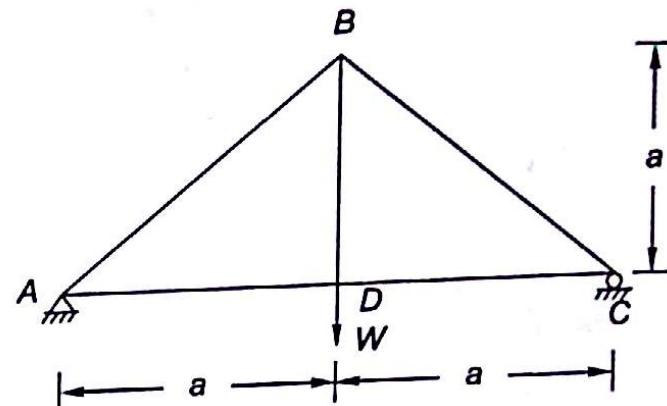

Fig. 4.33
4.4 A truss ABCD is shown in Fig. 4.33. It carries a load W at joint D . Area of cross-section of all the members is equal to 100 mm^2 . If the maximum stress in any member is not to exceed 100 MPa , what is the maximum magnitude of W ?